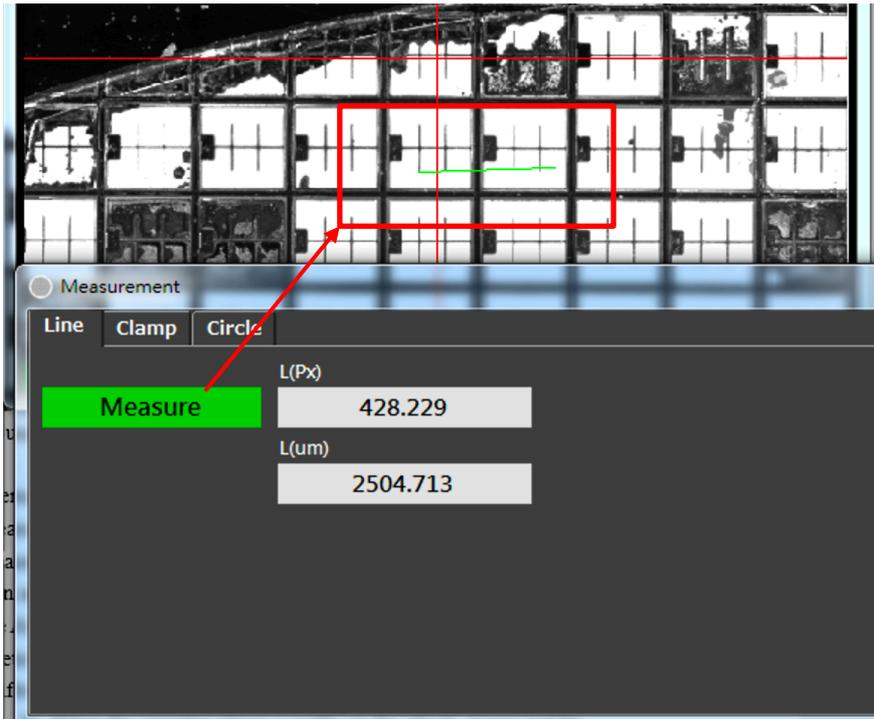
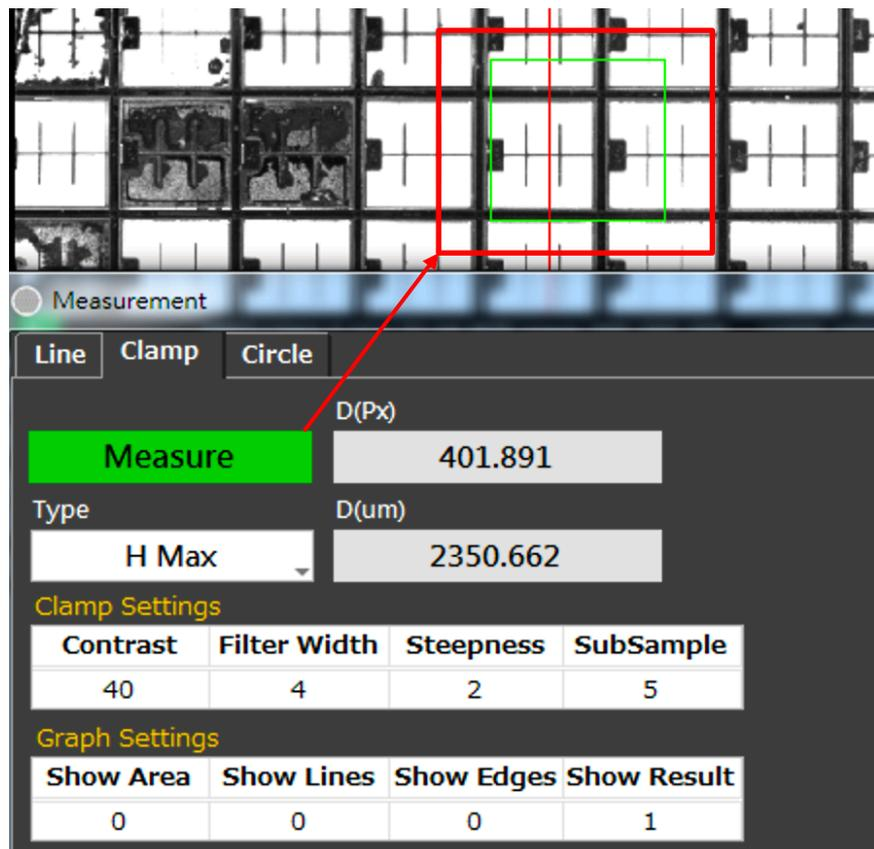
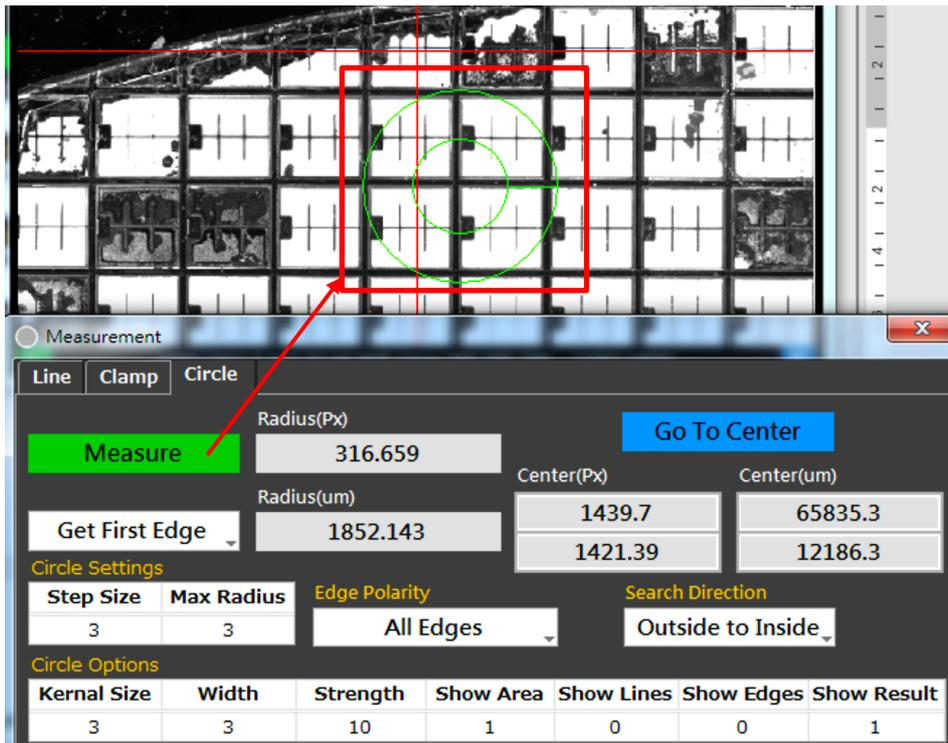

Fig. 23 Measure Line
Fig. 24 Measure Clamp
Fig.25 Measure Circle
- Measurement : Line distance measurement as Fig. 21 & Fig. 23 ; Clamp measurement as Fig. 24. Five options including H Max, H Min, V Max, V Min and H Max are supported ; Circle measurement as Fig. 25.